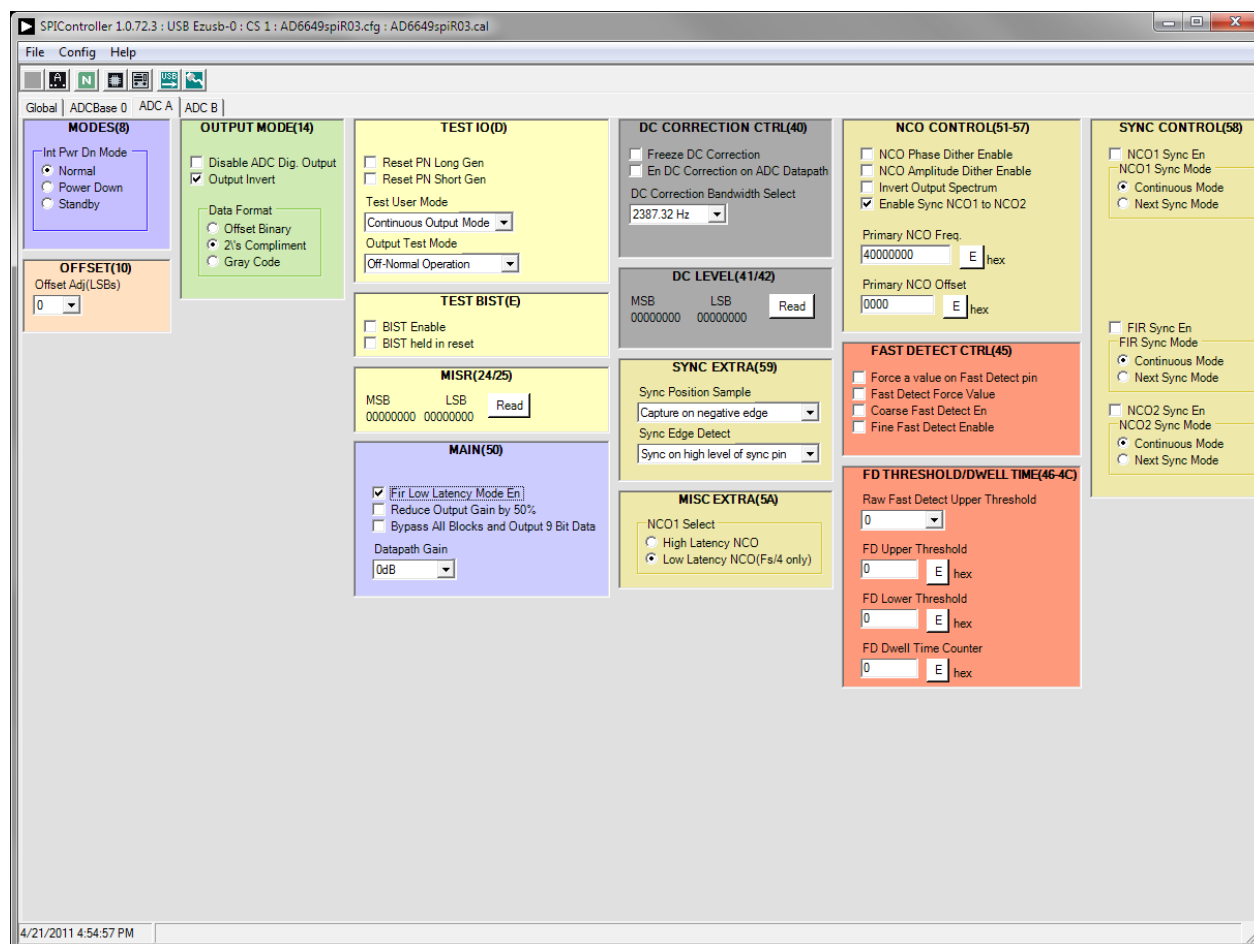

Figure 12. SPI Controller, AD6649 ADC A Tab—95 MHz FIR Filter and Fixed-Frequency NCO Mode
5. If using the AD6649, the device can be configured into two different modes. The default mode utilizes a 95 MHz FIR filter and fixed-frequency NCO. The SPI controller settings for this mode are shown in Figure 12. Under the **MAIN(50)** section, the **Fir Low Latency Mode En** checkbox must be selected, and the **Low Latency NCO (Fs/4 Only)** option